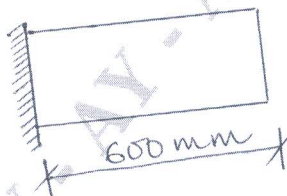

Fig. Q10 (b)
- b. Determine the natural frequency of vibration of the Cantilever beam as shown in Fig. Q10 (b). Take  $E = 200 \text{ GPa}$ ,  $\rho = 7840 \text{ kg/m}^3$ ;  $I = 2000 \text{ mm}^4$  and  $A = 240 \text{ mm}^2$ .